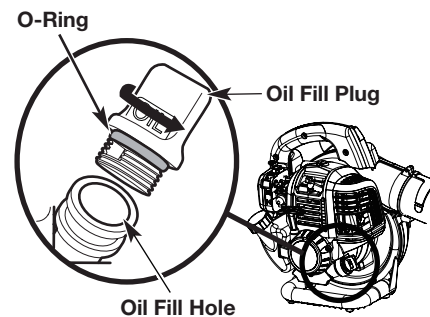

Fig. 9
3. Clean the area around the oil fill plug (Fig. 9) to prevent debris from entering the oil fill hole.
Note: Make sure the O-ring is in place on the oil fill plug (Fig. 9).
1. Clean the area around the oil fill plug (Fig. 9) to prevent debris from entering the oil fill hole.